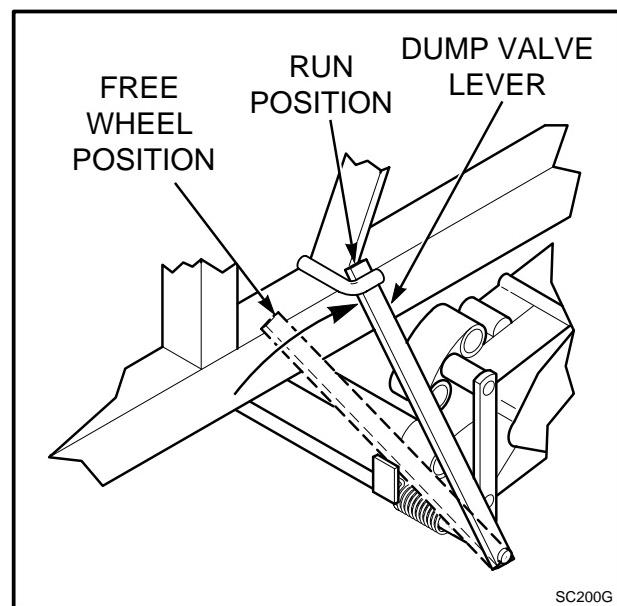

Figure 1
2. **Run Position:** Move the dump valve lever (on Left Hand side of mower) behind the hook on the frame to close hydraulic dump valves on the pump. (See Figure 1)
Free Wheel Position: Pull lever back and to the left, then push forward to relieve pressure. (See Figure 1)
11. Operate the machine forward and backward. Check that all the systems function correctly. If the machine does not move, make sure the hydraulic dump valve lever near the left wheel is engaged. (See **Figure 1 page3**)
To release the drive wheels, so the machine will roll without the engine running, pull the dump valve lever back from the hook on the frame, move it to the left, and push it forward to relieve the pump pressure. The lever is on the LH side of the machine. (See Figure 1 on page 3)